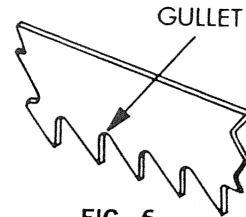

FIG. 6
2. Softer materials require coarser pitch blades (fewer teeth per inch) because the softer materials tend to fill the smaller gullets (Fig. 6) of fine pitch blades causing blade overheating and possible failure.